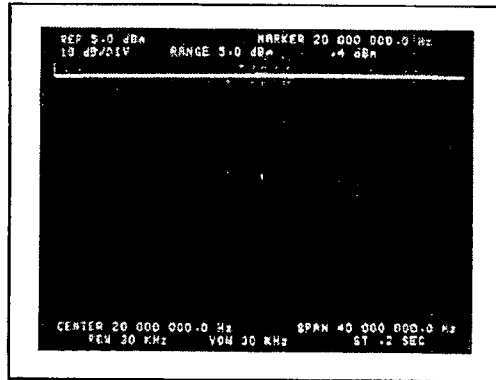

Figure 11-P-15. Correctly Autoranged Displayed
- Z. **Set the RBW to 30kHz. Rotate the Tracking Generator AMPLITUDE control fully clockwise (0dBm). Connect the Tracking Generator output to the front panel Terminated (50Ω) input. Did the 3585 automatically uprange to 0dBm (see Figure 11-P-15)?**